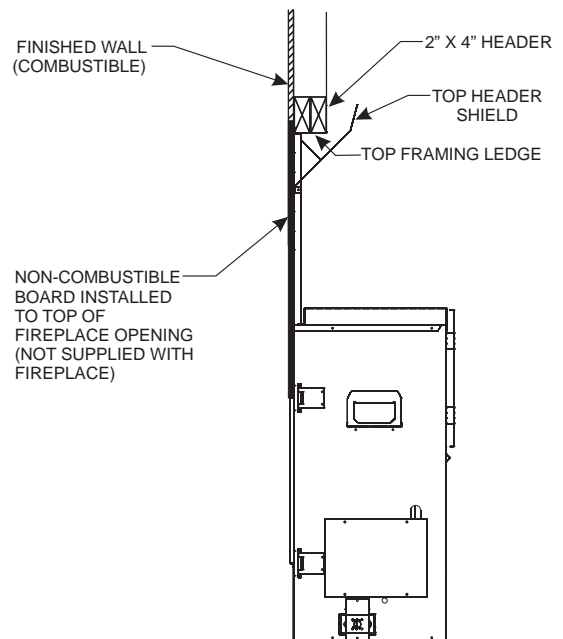

Figure 34
- Non-Combustible board installed flush to face (framing brackets at 1/2 inch set back). **See Figure 34.**